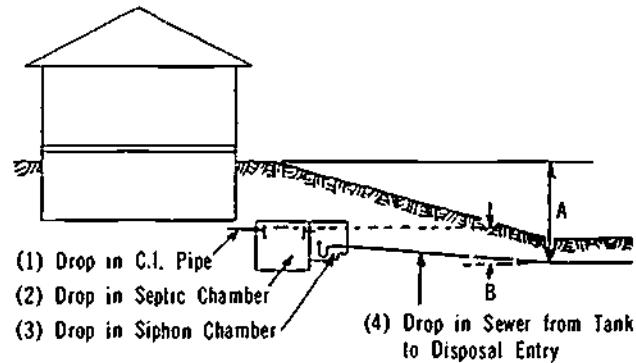

Figure 24-1. Determination of Level at Which House Drain Leaves Foundation Wall
b) To determine the level at which the cast iron house drain will leave the foundation wall, proceed as follows: Using a builder's level or, if necessary, a spirit level as shown in Part 1 of the manual, find the average ground level just outside the wall of the house and the level at the start of the proposed area. The difference between these two levels represents the drop between these two points. Add to this figure the depth that the field tile will be laid below the ground level in the disposal field. The total is represented by distance A in Figure 24-1.